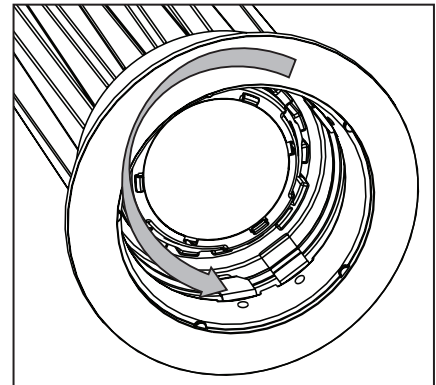

Figure 15
**Step 2.** Twist black optic holder counter-clockwise to remove optic and holder (Fig. 15).